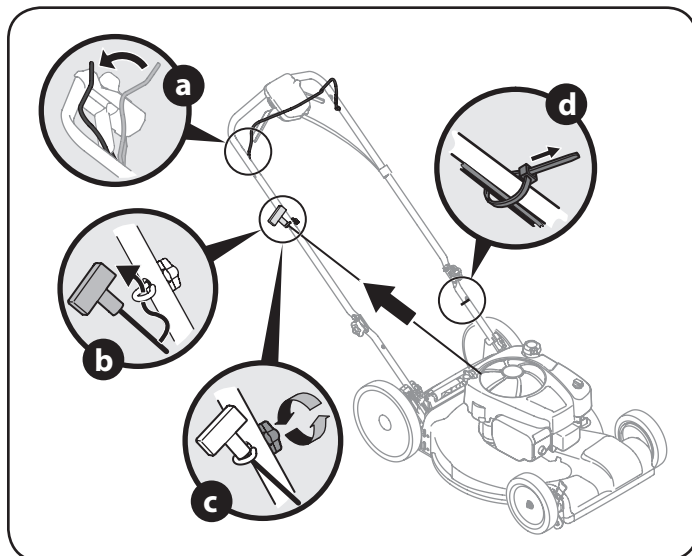

Figure 6
4. The rope guide is attached to the right side of the upper handle. Loosen the wing knob which secures the rope guide. Refer to Figure 6.
- b. Slowly pull starter rope handle from engine and slip starter rope into the rope guide. See Figure 6.
- d. Use cable ties provided to secure blade control and drive cables to lower handle as shown in Figure 6.